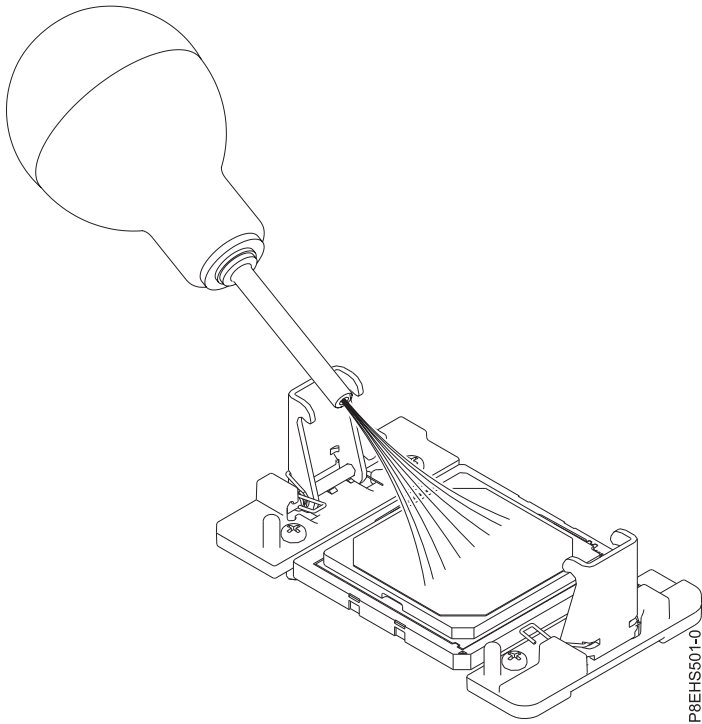

Figure 70. Removing dust and debris from the system processor module area
- a. If dust or debris is present, use the supplied air pump (part number 45D2645) to clean the system processor module area. Blow small bursts of air from the center toward the sides of the system processor module as shown in Figure 70 on page 70.